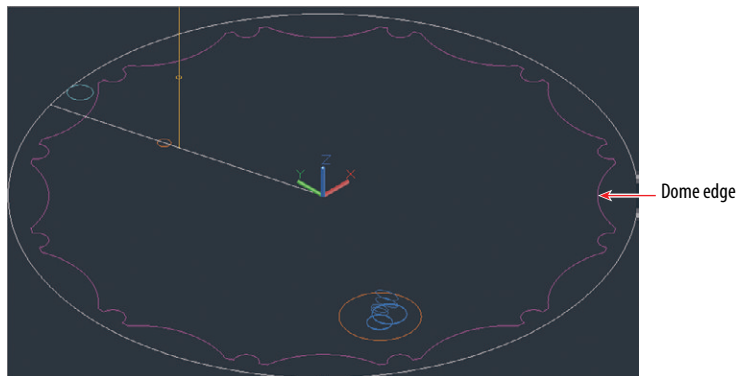

FIGURE 17.7 Selecting the dome edge
1. Select the Extrude tool on the Create panel of the ribbon's Surface tab. Select the magenta dome edge (see Figure 17.7) and press Enter.